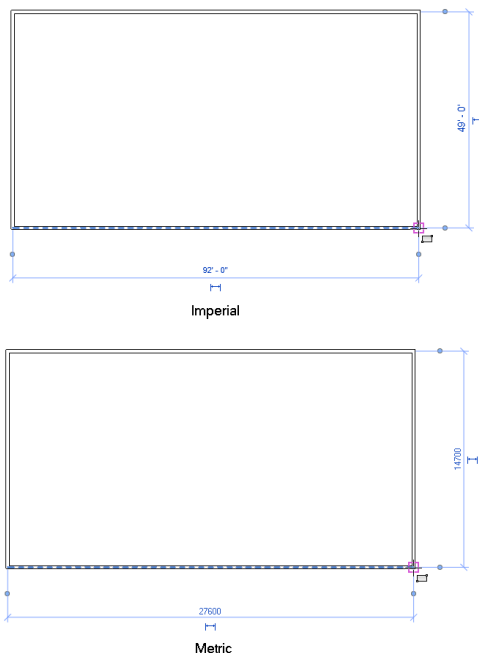

Figure 3-59 The temporary dimensions being displayed on the sketched wall
2. Click between the four elevation symbols in the drawing area to specify the first point. Next, move the cursor toward right to draw a rectangle. On doing so, a rectangle starts creating from a specified point. Now, click to specify the endpoint, as shown in Figure 3-59.